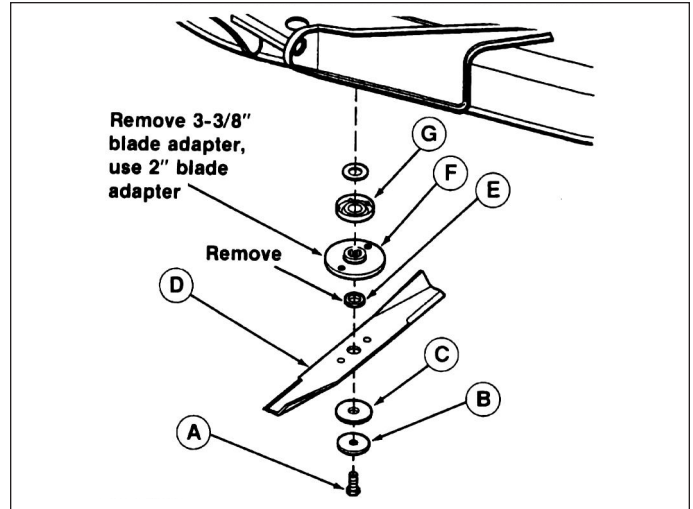

Figure 11b. Install High-Lift Blade - Early Models
1. Remove existing discharge-side blade but retain hardware. Remove the retaining band (E, figure 11 b) from the arbor shaft and remove the existing splined adapter (3-3/8" O.D. F, figure 11b). This adapter can be discarded. The new 2" O.D. splined adapter supplied with the bagger can be used with regular or high-lift blades. Install the new 2" splined adapter with existing retaining band (E).
2. Install the new high-lift blade (D, figure 11 b) with the tabs pointing up toward the bottom of the deck. Secure with existing hardware (A, B, & C, figure 11b) and torque capscrew to 50-70 ft. lbs. (66-76 N.m.).